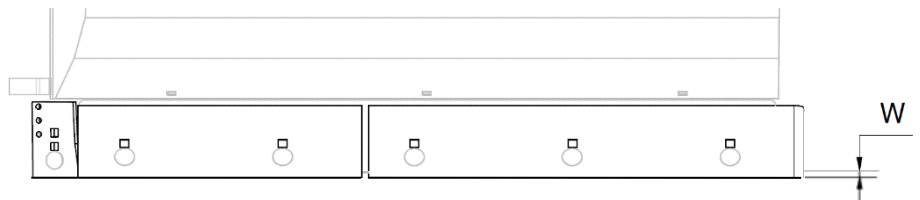
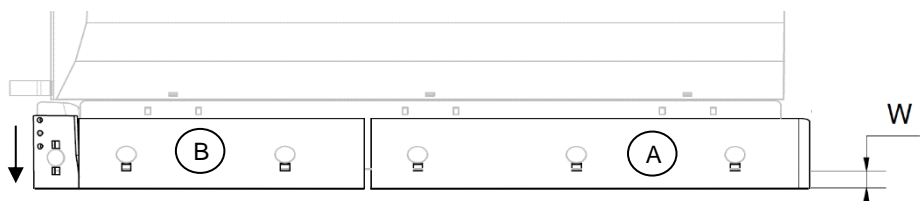

Figure 15
Figure 16
When the wear is significant and the distance $W \leq 10 \text{ mm}$ (see Figure 15), it is time to move all the cutting edges downwards (see Figure 16). When this position is also worn, the cutting edges (B) are turned or shifted (from left to right and vice versa); this applies to the cutting edges with bent ends (A).